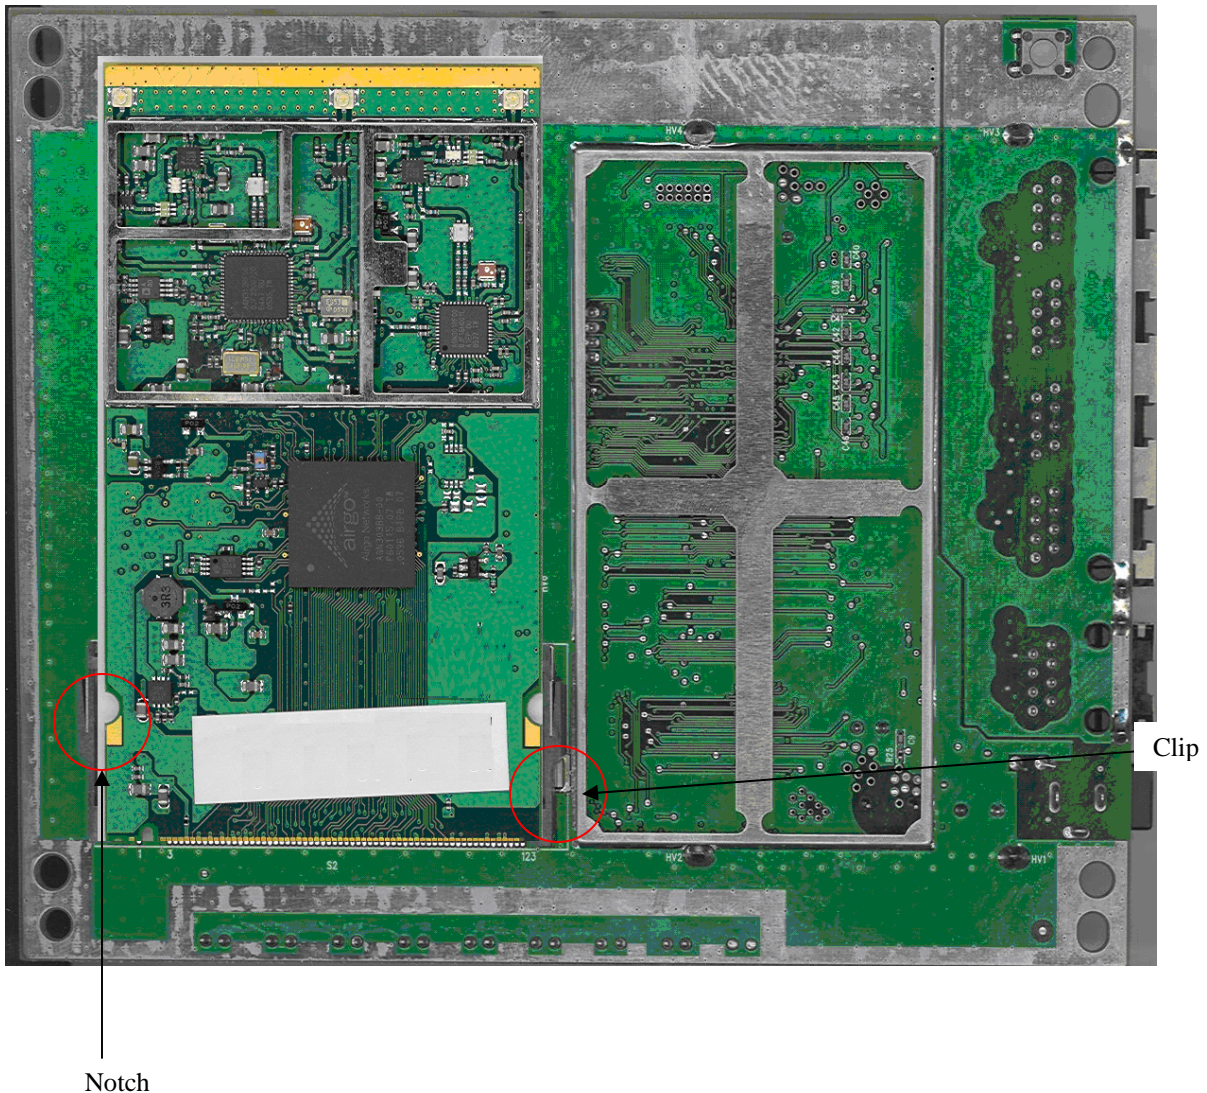

Figure 4 Radio Module Alignment
- Align the miniPCI connector on the 65-VE240-P1 with the miniPCI receptacle on the attaching system, taking care to fit the notch in the bottom left of the radio module with the tab on the miniPCI receptacle on the attaching system (see Figure 4).